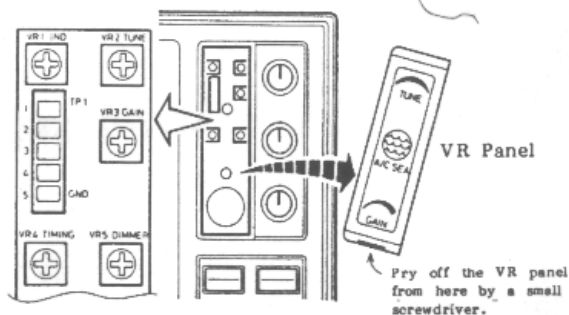

Fig.14 Location of Preset Potentiometers
- Press the  touchpad on the Display Unit, and the control panel will light up. In approximately 1 minute and 30 seconds, the message "ST-BY" will appear at lower center of the screen. While this 90 seconds warmup is in process, pry off the VR panel on the front panel of the Display Unit. See Fig.14. This will expose the preset adjustments. Push in the front panel TUNE control and release the control to bring it out. Set the control to 12 o'clock, the GAIN control at 2 o'clock, and the A/C SEA control at fully counterclockwise.
3. Bring up the GAIN control until a small amount of noise appears on the screen. At this point, unless the tuning just happens to be at the optimum point, slowly adjust the coarse "TUNE" control accessible through the VR panel, watching the screen for radar targets. (See Fig.14.) You must patiently adjust this coarse-tuning control in very small increments, allowing the sweep to go around completely in order to observe the effect of a single small change in its setting. When you are finished optimizing the coarse tuning control behind the VR panel, verify that the fine TUNE control on the front panel peaks up for maximum radar echoes at 12 o'clock, or at least close to that point.
2. Set VR3 at the position where a little background noise appears on the screen. See Fig.14 for the location of VR3.
2. Adjust potentiometer VR2 ("TUNE"), located behind the VR panel of the Display Unit (Fig.14.), so that a comparatively weak long range echo is discerned with maximum definition. At this moment confirm that best picture definition is obtained with the maximum number of the tuning bar displayed on the screen. If not, adjust potentiometer VR1 ("IND") so that the maximum number of the tuning bar lights up.
The illumination of the touchpad panel can be adjusted to suit your needs, by adjusting the "DIMMER" potentiometer (VR5) located behind the VR panel of the Display Unit. See Fig.14 for the location of VR5.